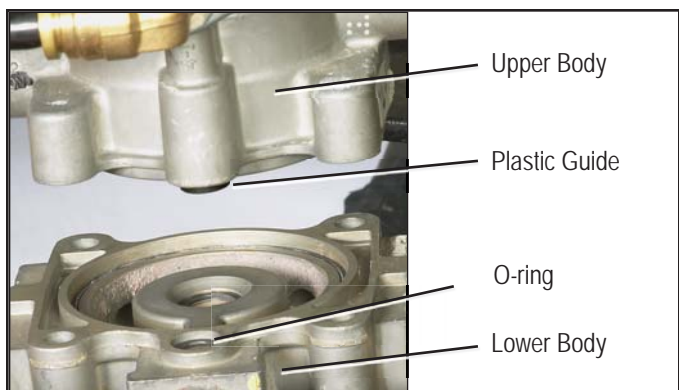

Figure 5 - *PLASTIC GUIDE AND O-RING SEAL*
5. Locate the plastic guide in the upper body of the SR-7™ valve directly above the supply port. The o-ring seal from the lower body may stick to the plastic guide when the bodies are separated. If so, remove it from the guide and place it back into the lower body. An extra o-ring has been included in this kit in the event that the o-ring is lost or damaged during servicing. Refer to Figure 5.